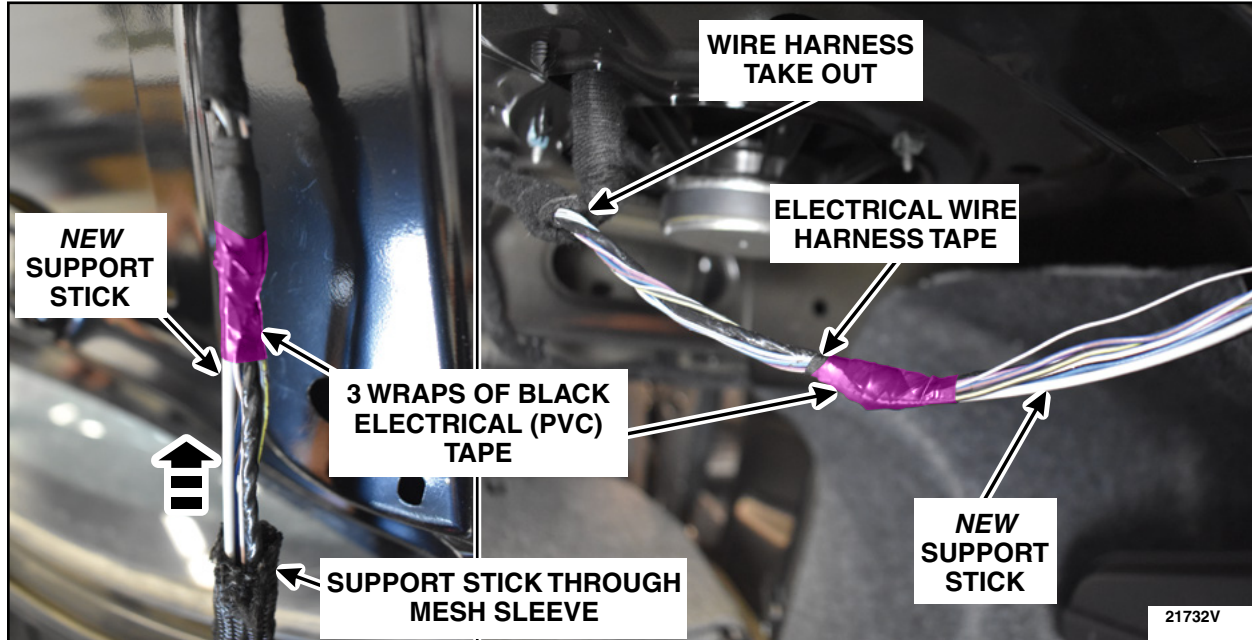

FIGURE 21
30. Pass the new support stick through the mesh sleeve. Place the ends of the support stick at the halfway point on the Coroplast® 837 or equivalent electrical wire harness tape. Apply 3 wraps of KT173510 or equivalent black electrical (PVC) tape to secure the support stick on each end of the wire harness. See Figure 21.